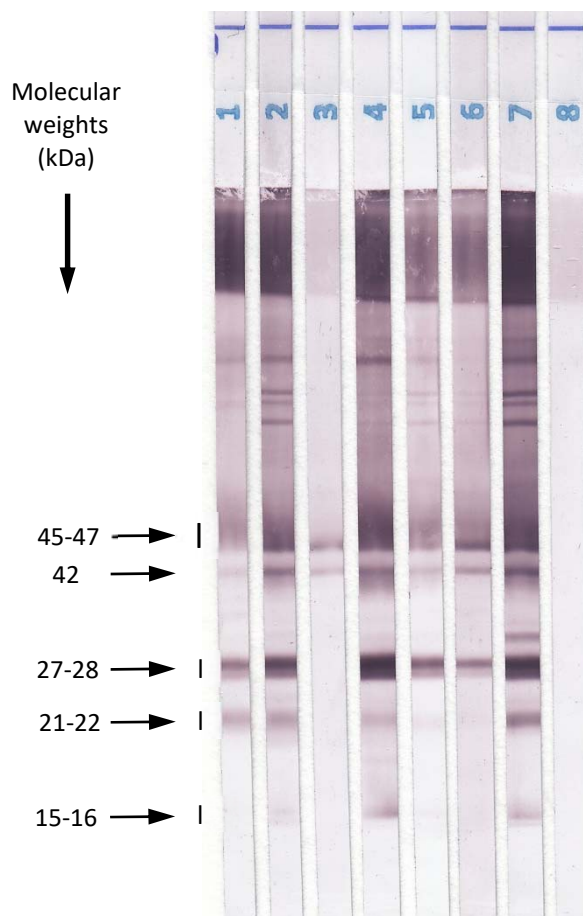

Fig. 1: Examples of positive and negative results
- 5 bands are most often present: **P15-16**, **P21-22**, **P27-28**, **P42** and **P45-47** at the corresponding molecular weights (see photograph on **Fig. 1**).